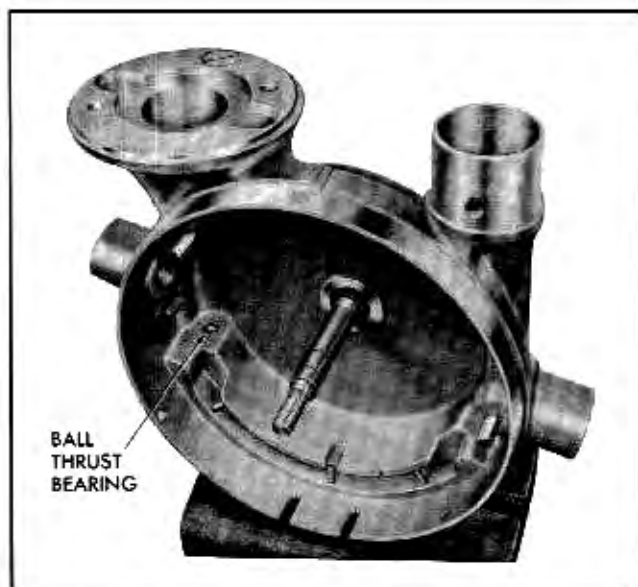

Fig. 14-6 Ball Thrust Bearing In Place
17. Holding assembly so motor is up, remove motor. Then remove ball thrust bearing and thrust disc from hole in drive housing (Fig. 14-6). **NOTE:** If new motor is installed, solder leads to terminals of switch to which original motor leads were soldered.